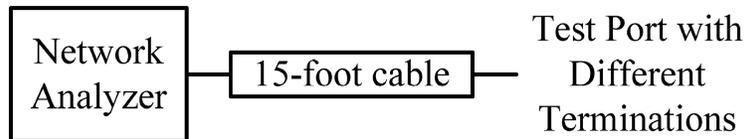

Figure 3: Block Diagram for this experiment
2. Connect the instrument as shown in Figure 3. Be sure to include a 15-foot cable to extend the test port. (This increases the error correction difficulties).